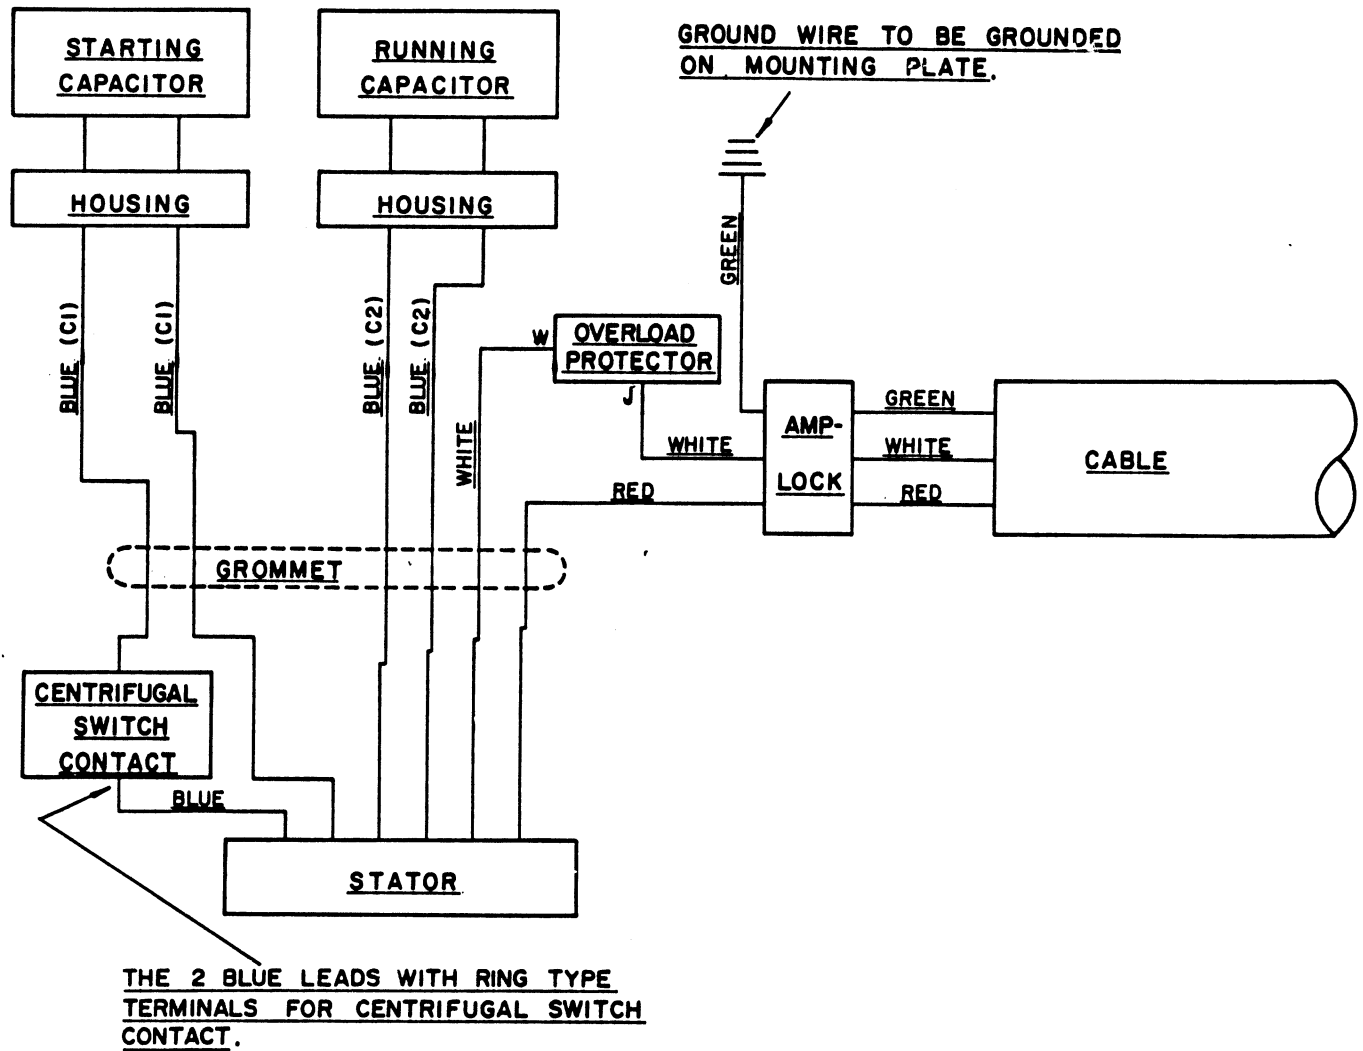

Figure 4. Pump Wiring Diagram
- a. Measure the incoming voltage while the pump is **operating at full capacity**. See Figure 4 on page B-7.